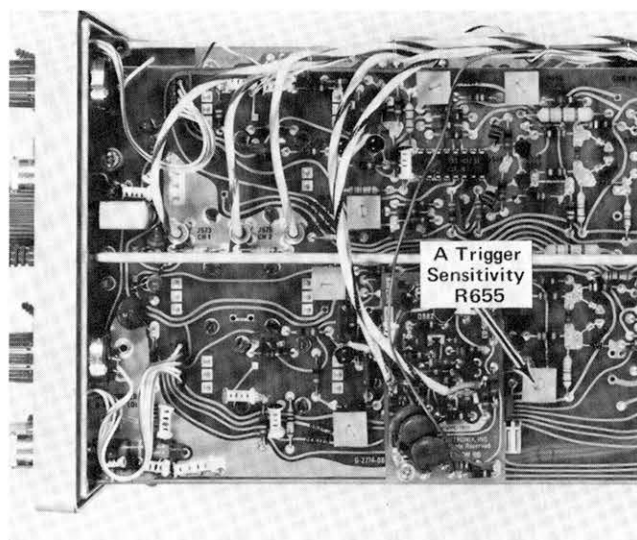

Fig. 5-24. Location of A Trigger Sensitivity adjustment.
g. ADJUST—A Trigger Sensitivity adjustment, R655, (see Fig. 5-24) so that a stable display can just be obtained by rotating the A LEVEL control.